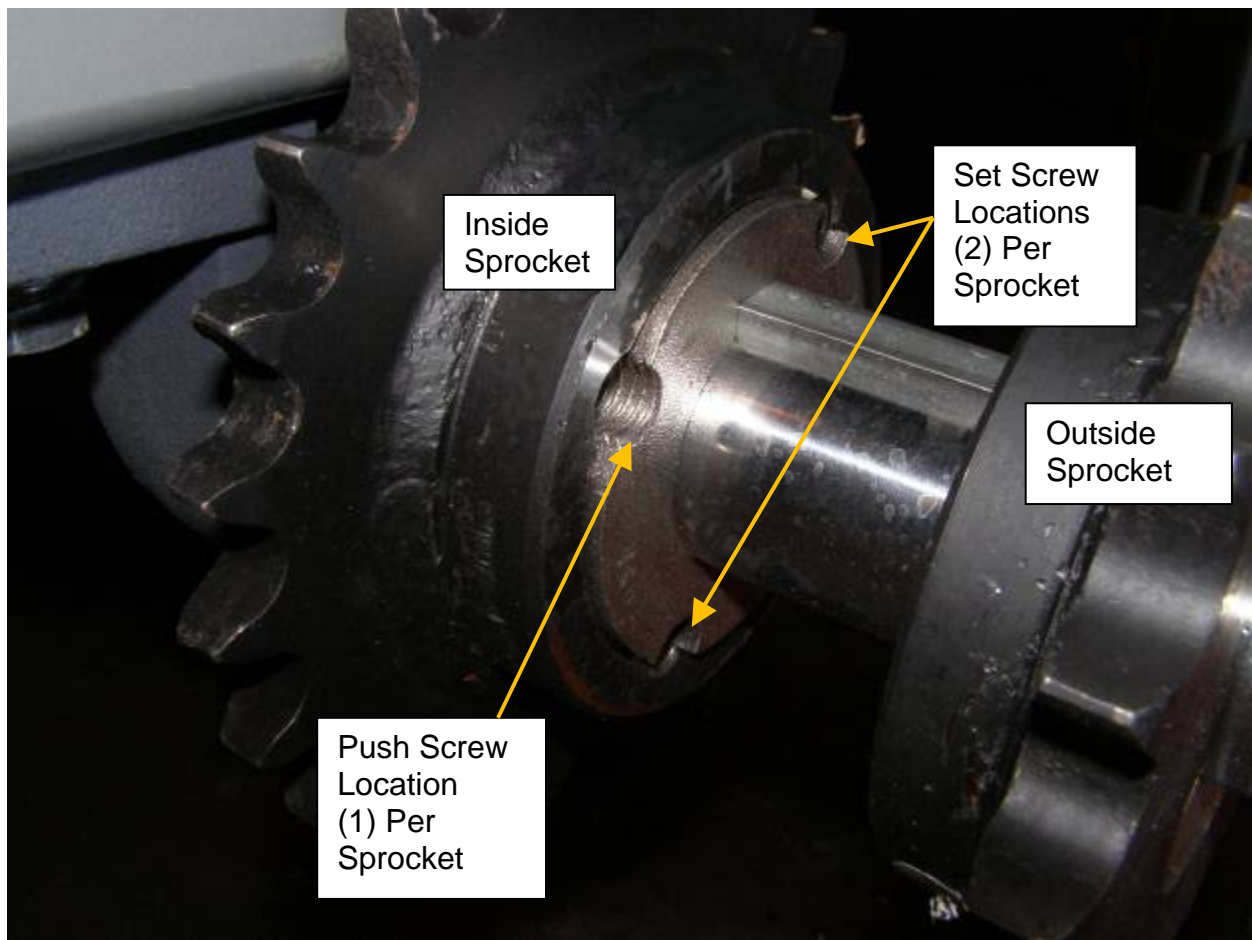

Figure 25 Adjusting Sprocket Location
F. ADJUSTMENT OF SPROCKET LOCATIONS (Reference Figure 25)